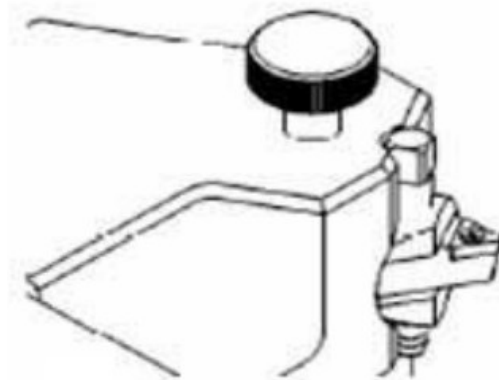

Fig 13
5. Using the cross slide handwheel, locate the tool bits at the inner surface edge and loosen lock knob (Figure 13).